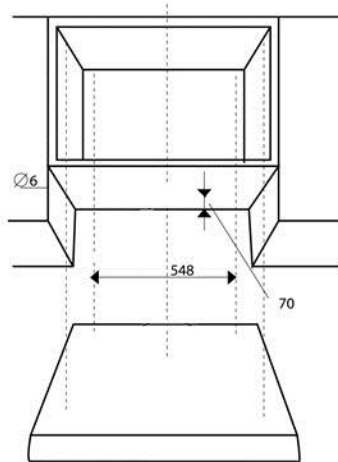

FIG . 6
2. Mark 4 points for the holes in the cabinet, respecting the distances indicated (Fig. 6), drill 4 holes of 6 mm in diameter in the cabinet.
3. Push the extractor against the cabinet and insert the 4 screws (5) that operate from the inside of the cabinet. Tighten the screws completely.
1. Mark 4 points for the holes in the cabinet, respecting the indicated distances (fig.6). Drill 4 holes of 6 mm diameter in the cabinet.
2. Push the extractor against the cabinet and insert the 4 screws (5) that operate from inside the cabinet. Tighten the screws completely.